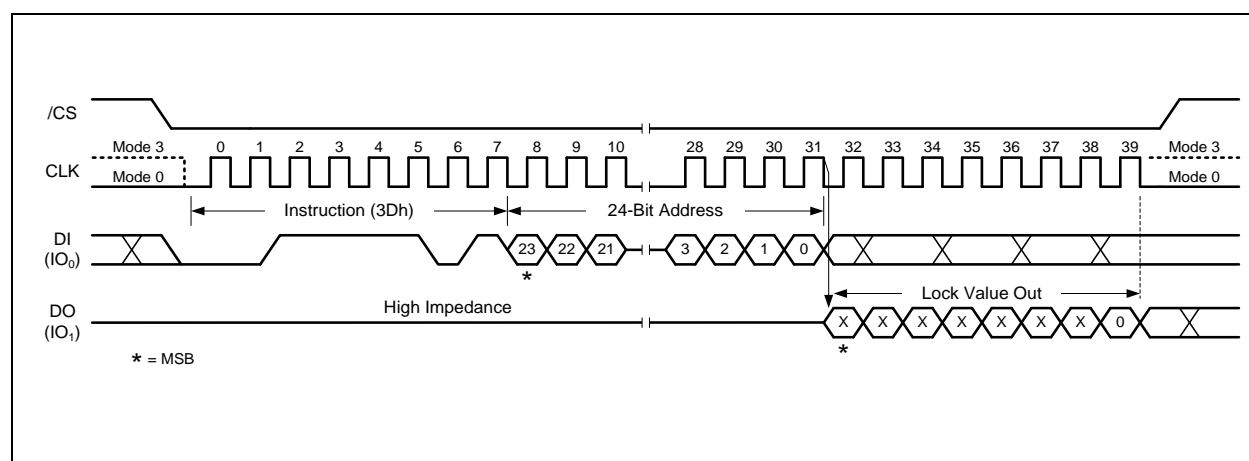

Figure 57. Read Block Lock Instruction
To read out the lock bit value of a specific block or sector as illustrated in Figure 4d, a Read Block/Sector Lock command must be issued by driving /CS low, shifting the instruction code “3Dh” into the Data Input (DI) pin on the rising edge of CLK, followed by a 24/32-bit address. The Block/Sector Lock bit value will be shifted out on the DO pin at the falling edge of CLK with most significant bit (MSB) first as shown in Figure 57. If the least significant bit (LSB) is 1, the corresponding block/sector is locked; if LSB=0, the corresponding block/sector is unlocked, Erase/Program operation can be performed.